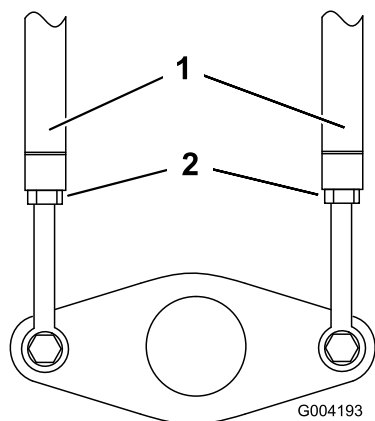

Figure 53
3. Loosen the jam nuts on the traction rods, under the control panel (Figure 53).